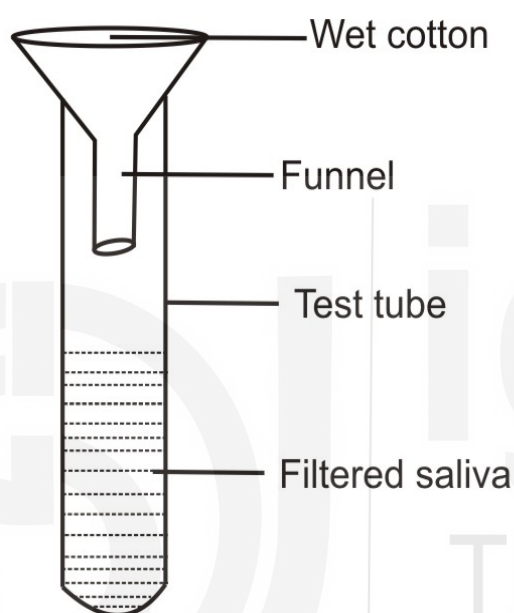

Fig. 11.1: Experimental setup for enzyme collection.
- i) **Enzyme Preparation:** Prepare a very thin layer of absorbent cotton, wet it with distilled water and squeeze out the water completely. Put the cotton layer down the rim of the funnel. Take a small piece of paraffin wax or dental grade cotton chew for few minutes. Later the chewed paraffin or dental grade cotton should be expectorated on to the cotton along with saliva. Store the filtered saliva in the test tube. The collected saliva can be further diluted to study the activity of the amylase enzyme (Fig. 11.1).